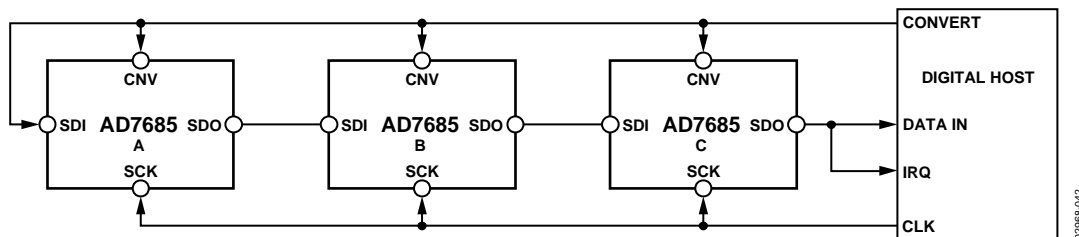
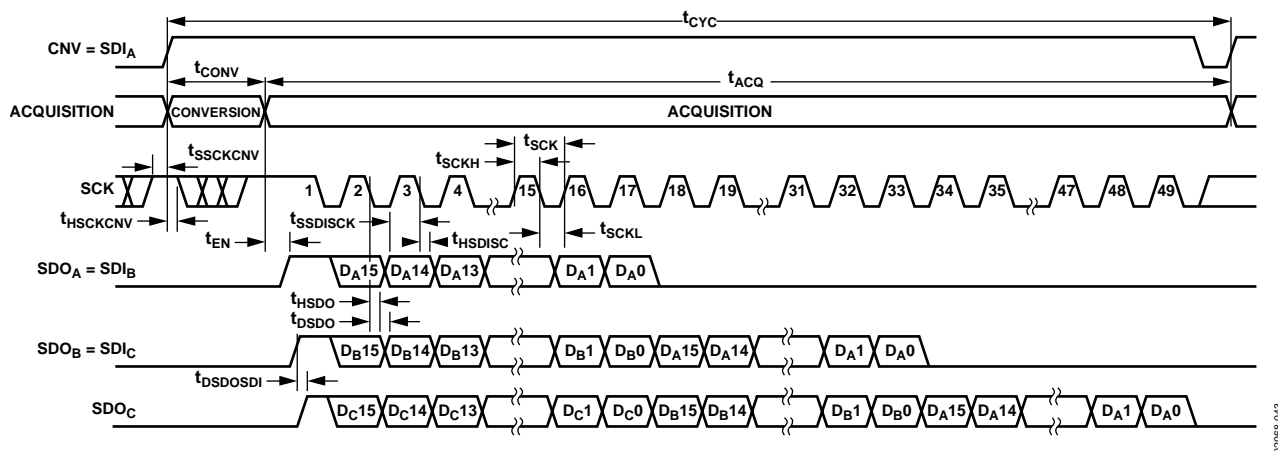

Figure 43. Chain Mode with BUSY Indicator Connection Diagram
Figure 44. Chain Mode with BUSY Indicator Serial Interface Timing
- In the chain mode, if SCK is high during the CNV rising edge (Figure 44).
A connection diagram example using three AD7685s is shown in Figure 43 and the corresponding timing is given in Figure 44.
Figure 43) SDO is driven high. This transition on SDO can be used as a BUSY indicator to trigger the data readback controlled by the digital host. The AD7685 then enters the acquisition phase and powers down. The data bits stored in the internal shift register are then clocked out, MSB first, by subsequent SCK falling edges. For each ADC, SDI feeds the input of the internal shift register and is clocked by the SCK falling edge. Each ADC in the chain outputs its data MSB first, and $16 \times N + 1$ clocks are required to readback the N ADCs. Although the rising edge can be used to capture the data, a digital host also using the SCK falling edge allows a faster reading rate and, consequently, more AD7685s in the chain, provided the digital host has an acceptable hold time. For instance, with a 5 ns digital host setup time and 3 V interface, up to eight AD7685s running at a conversion rate of 220 kSPS can be daisy-chained to a single 3-wire port.